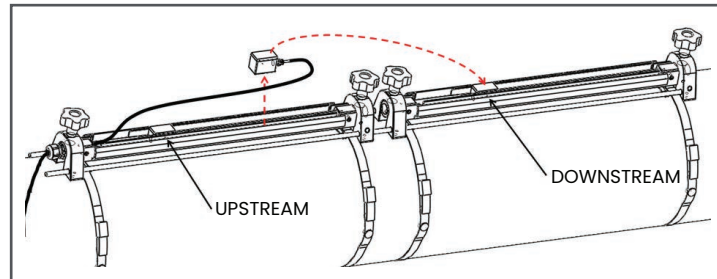

Figure 15: Moving the Downstream Transducer
- b. Remove the downstream transducer from the first fixture (see *Figure 15* below), disconnect the transducer cable, and route the cable into the second fixture. Then, install the downstream transducer into the second fixture and reconnect the transducer cable. If you are using solid couplant, apply it to both transducer faces. Then, rotate the transducers back onto the rail.